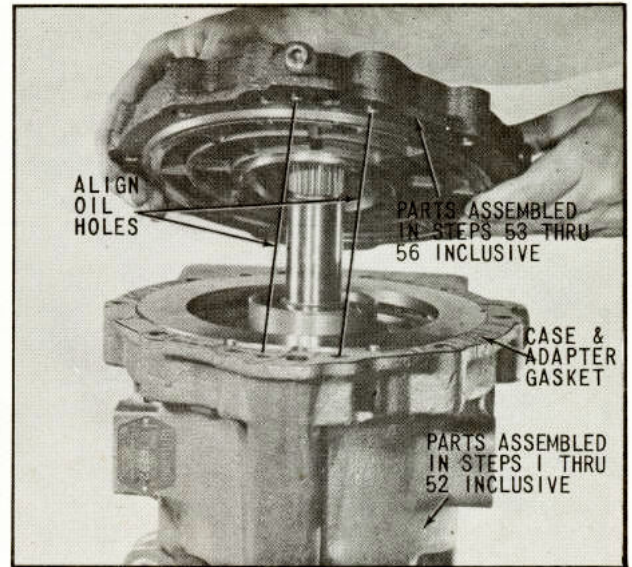

Fig. 57 Assembling Adapter and Reverse Clutch Assembly onto Case
57. With parts assembled, in steps 1 through 52 inclusive, resting on the rear face of coupling, coat the exposed front of the transmission case with petroleum jelly and assemble in place the case and adapter gasket, (Fig. 57).
58. Lift combined parts assembled in steps 53 through 56 inclusive, above parts assembled in steps 1 through 52 inclusive, as shown in (Fig. 57). Align the oil holes as indicated in (Fig. 57), then lower the reverse clutch piston and adapter assembly squarely onto the input gear and transmission case.